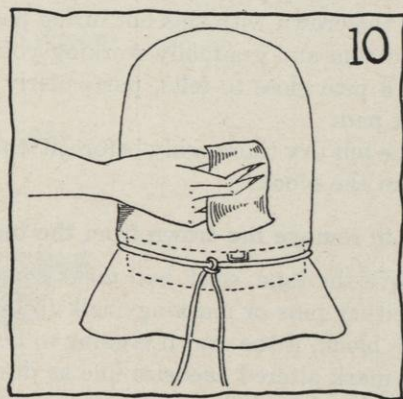

FIG. 10.
- a. Rub down the felt with fine sandpaper to remove the long hairs of the fur (see Figure 10).